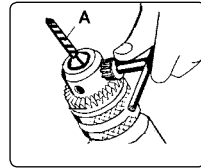

fig.4
- 4.1.1. Open or close the chuck jaws to a point where the opening is slightly larger than the drill or tool bit (fig.4) to be used. Insert the drill bit into the chuck as far as it will go. Place the chuck key in one of the chuck holes and tighten the chuck securely.